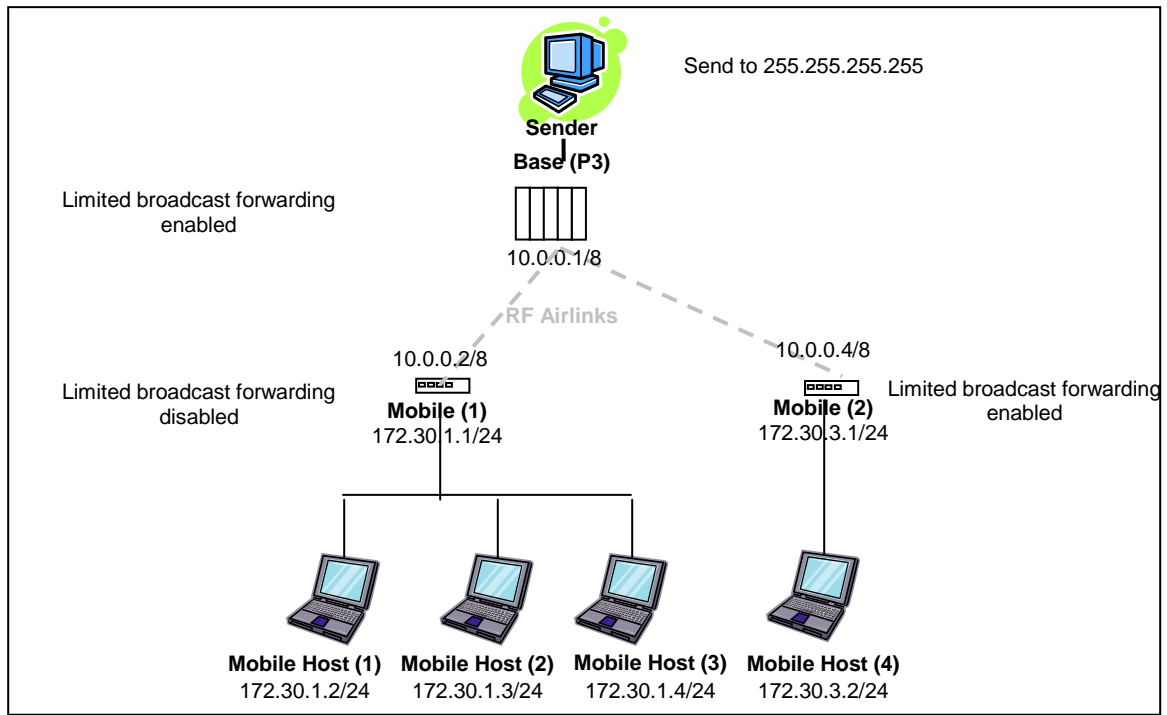

Figure 46 - Example of Limited broadcast forwarding disabled
In this example (Figure 46), limited broadcast forwarding is enabled on the **Base** unit, disabled on the **Mobile (1)** unit and enabled on the **Mobile (2)** unit. If **Sender** sends a packet to destination address 255.255.255.255, the packet would reach **Mobile Host (4)** only. The **Mobile (1)** unit would discard any limited broadcast packet it received from the **Base** unit.